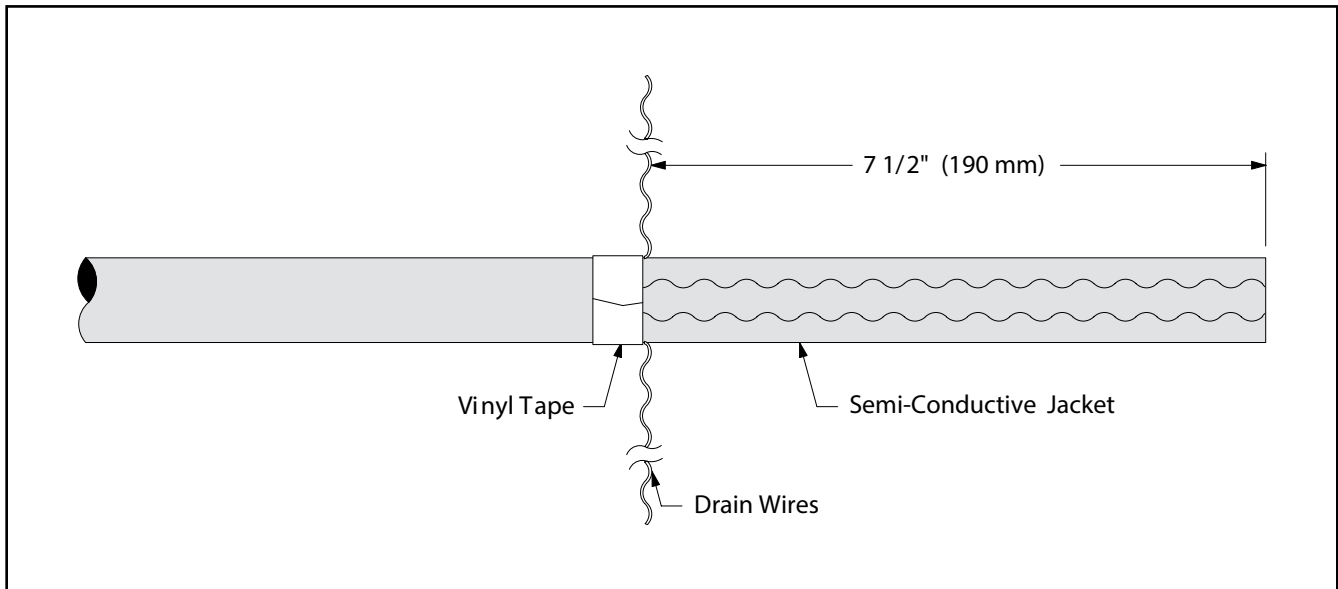

Figure 4
- Wrap a vinyl tape band around cable jacket at a point 7 1/2" (190 mm) from cable end and remove drain wires from semi-con jacket to leading edge of applied vinyl tape band (*Figure 4*).